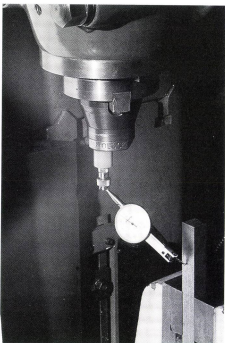

Figure 5a
4. It can also be used to line up work in both vertical planes. Refer to figures 5a & 5b. Move table up and down, or the